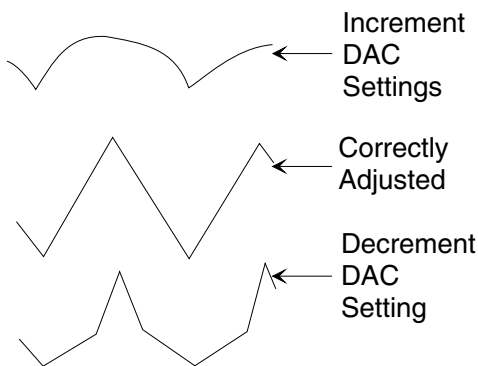

Figure 4-5. Shaper DAC Adjustment Waveform Examples
- b. On the computer keyboard, use 1, 2, or 3 to increment and 8, 9, or 0 to decrement the value of the DAC's setting to adjust the triangle waveform being displayed on the 562 Network Analyzer (Figure 4-5) for the most linear response.